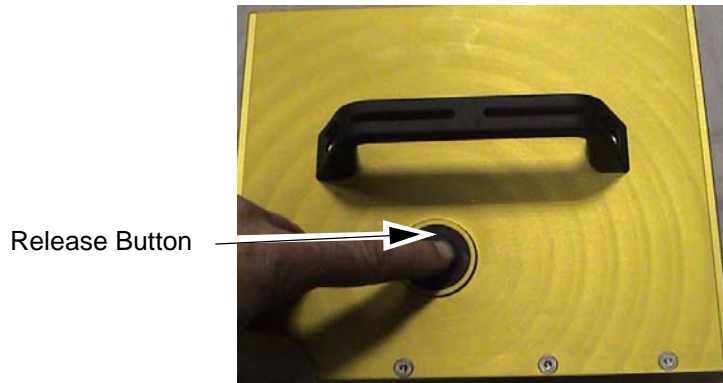

Figure 5-11: IP Cassette
- 1 Press the release button on the front of the cover (Figure 5-11). The button clicks as the cover unlocks from the printer body.